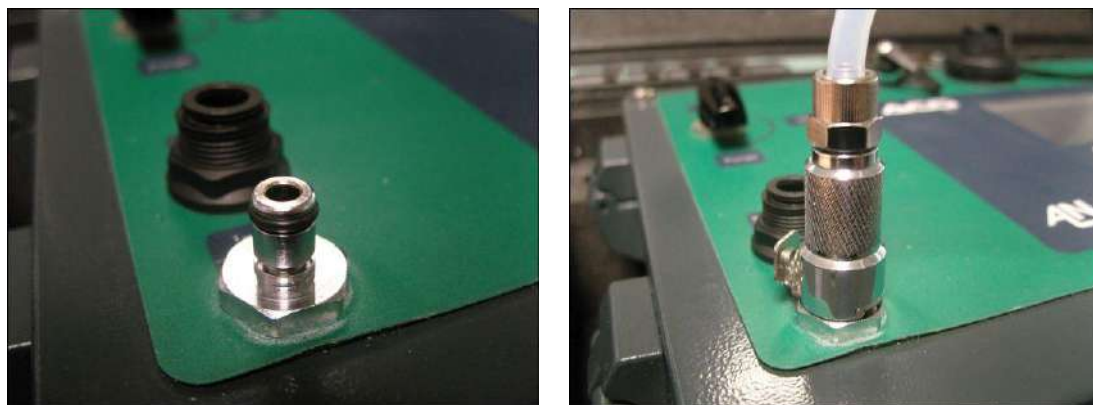

Figure 27 **Connecting Calibration Fitting to ACG+ Calibration Port**
- 2] Connect the outlet of the regulator to the inlet/calibration gas connector accessory (see section 9) and then connect the inlet/calibration gas connector to the calibration inlet on the ACG+ (Figure 27). Push the fitting on fully until it latches in place.